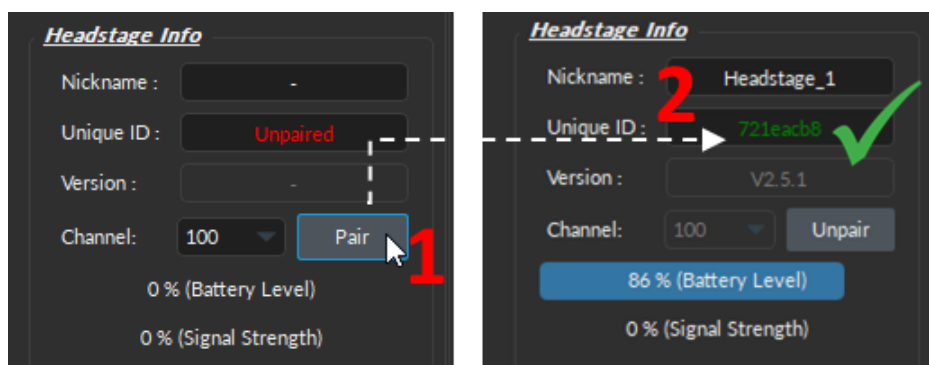

Figure 8.54: Pairing Headstage
To pair the headstage (Fig. 8.54), (1) click **Pair** and (2) unique ID in green will appear if correctly paired.